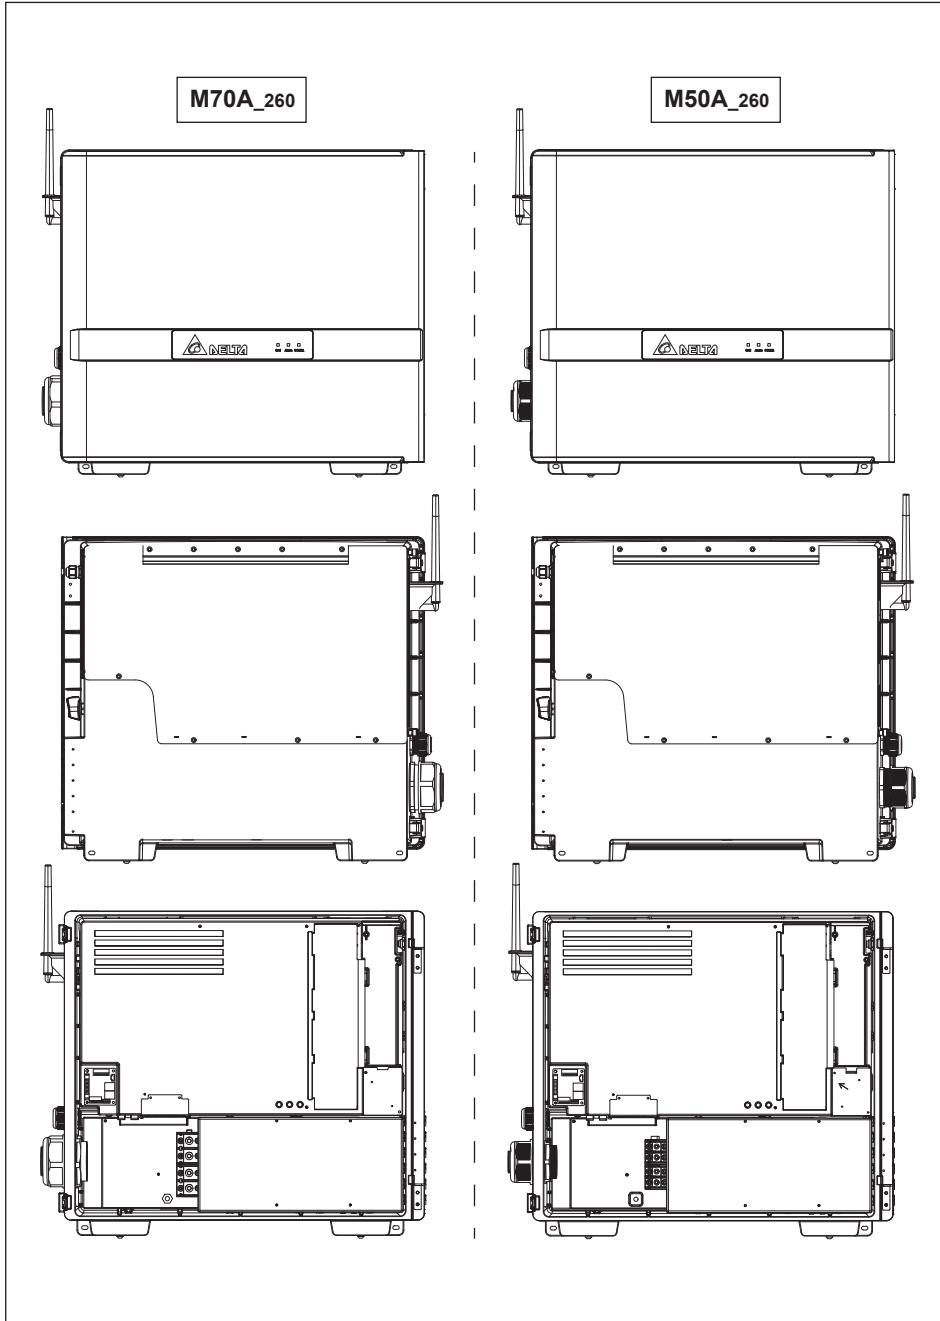

**Figure 2-3: Rating label**
**Figure 2-3** below, shows the certification and rating label.